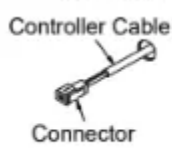

Fig. 1
3. When running cable through the access hole ensure the connector end of the cable is located nearest to the water controller (Fig. 1).
STEP 1: For the water controller in the KITCHEN ONLY, press and hold the 'Priority Transfer' and 'On/Off' buttons simultaneously (see Fig. 1) until a 'beep' is heard approximately 5 seconds).